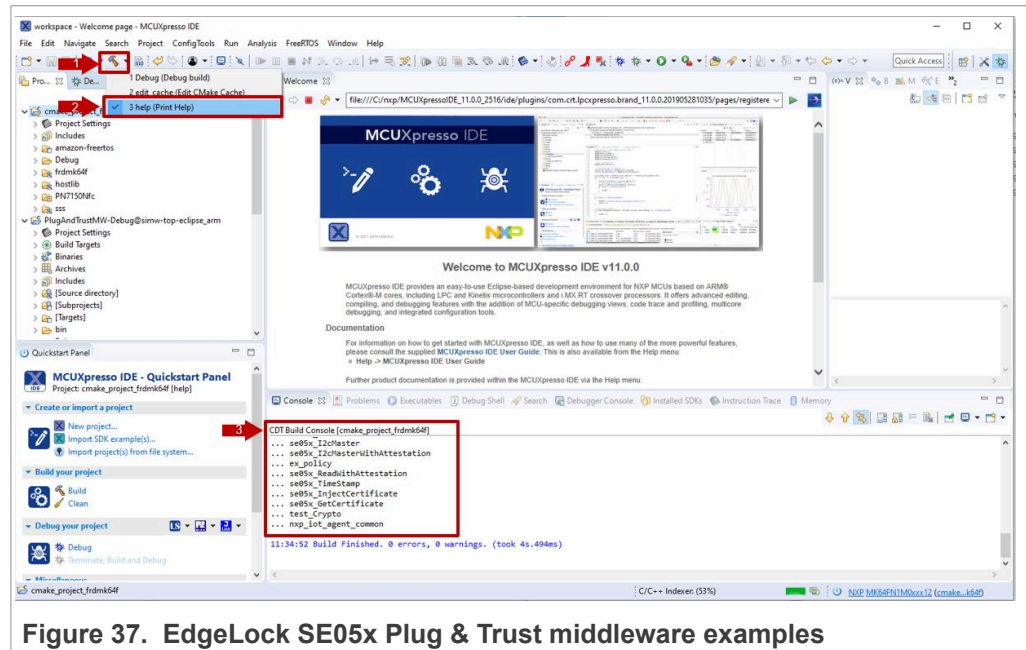

Figure 37. EdgeLock SE05x Plug & Trust middleware examples
3. The MCUXpresso console will display the list of EdgeLock SE05x Plug & Trust middleware examples which can be compiled with the currently chosen CMake settings (see Figure 37).